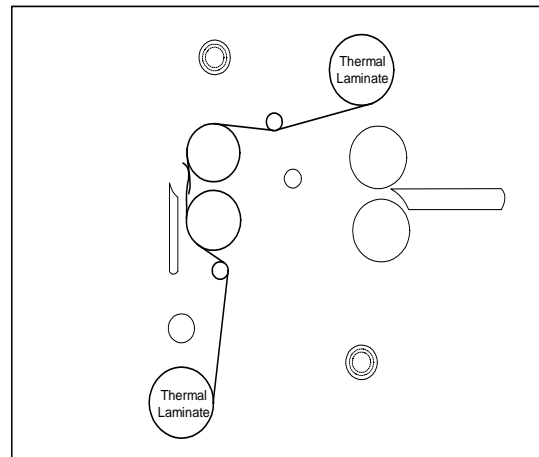

Figure 20
5. Pull the lower film behind the lower idler bar, Lower the table, Pull Film up towards the film draped over the top heat roller and adhere the lower film to the upper film (Fig. 20).